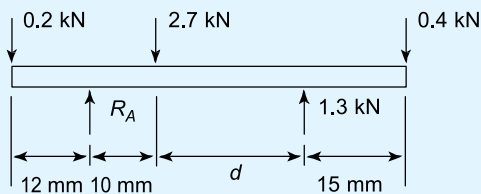

Figure 6.16
1. Calculate the force R_A and distance d for the beam shown in Figure 6.16. The mass of the beam should be neglected and equilibrium conditions assumed.